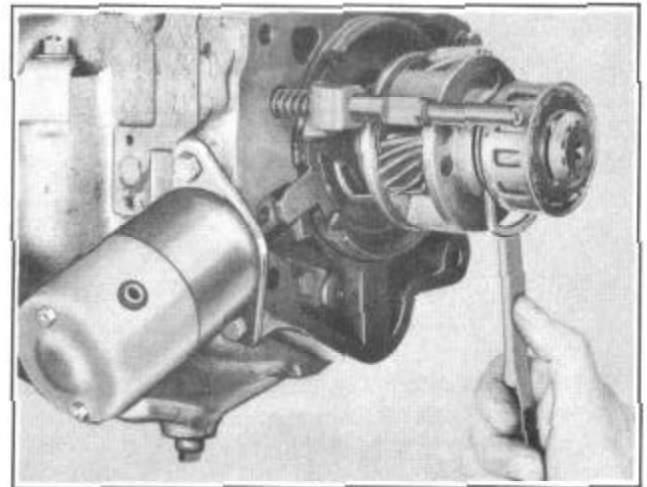

FIGURE 26
6. Install clutch cam and pinion cage, attach the clutch cam to the pinion cage assembly with the large retaining clip, Figure 26.